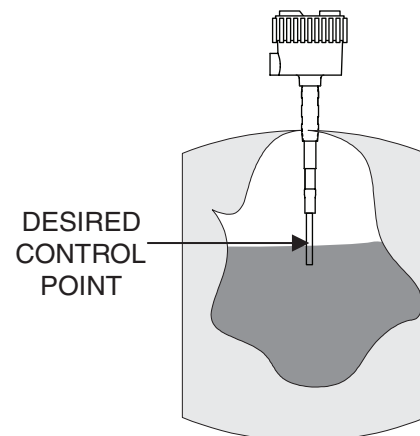

Figure 4-3
1. Set the level to a point on the active section of the sensing element where control is desired (3 inches [76.2 mm] of coverage minimum). *See Figure 4-3.*
2. Start from the full counterclockwise (CCW) position. Turn the setpoint adjustment clockwise (CW) until the relay just operates (LED changes states).